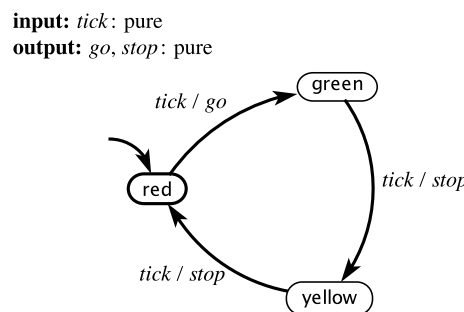

Figure 3.14: Deterministic finite-state machine for Exercise 5
5. Consider the deterministic finite-state machine in Figure 3.14 that models a simple traffic light.